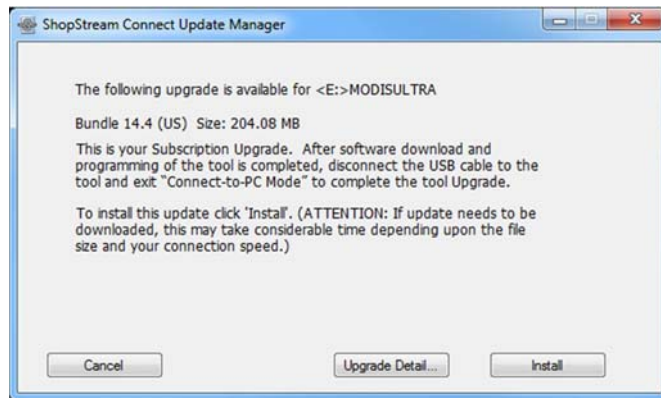

Figure 8-6
2. Read and follow the instructions displayed in the message box, then select **Install** to begin the download and installation (Figure 8-6).